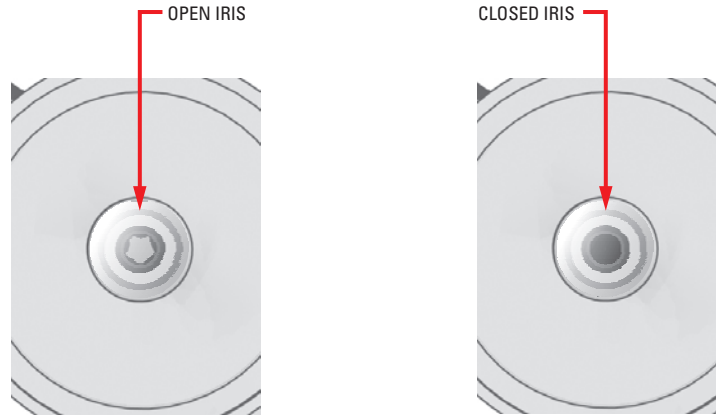

Figure 12. Open Iris and Closed Iris
9. Hold the auto iris lens so you can watch the iris (refer to Figure 12). Then increase the DC OFFSET setting slowly until the iris closes.